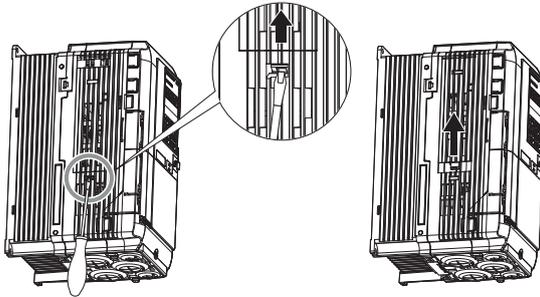

Figure 6 Remove the Connector Cover
1. Shut off power to the unit, wait the appropriate amount of time for voltage to dissipate, then remove the connector cover by pushing on the connector tab and sliding the cover towards the top of the unit as indicated by the arrow in Figure 6.